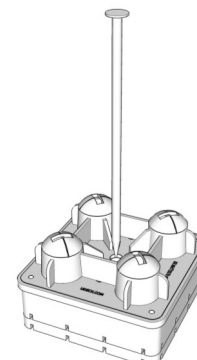

Fig. 34
IMPORTANT: If you intend to purchase and install UDECX leveling components; 1" Shims (G) and/or 3" Risers (H), you will need to anchor the Pier (A) and all 1" Shims (G) or 3" Risers (H) with an 18" Spike (J). See Fig. 34
(NOTE: All Risers (H), Shims (G) and Piers (A) need to be secured with 18" Spikes (J). (Fig 34)